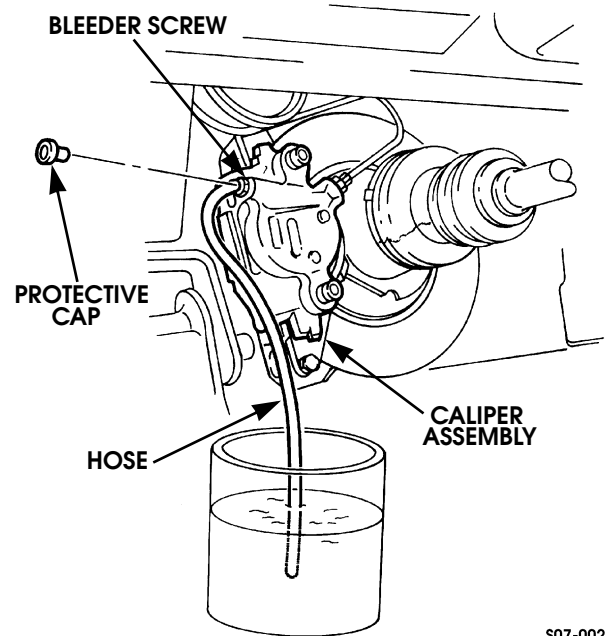

Figure 7-5: Manually Bleeding Brake System
5. Remove protective cap from bleeder screw on caliper assembly (Figure 7-5).
8. Open bleeder screw 3/4 turn and observe brake fluid in container. Close bleeder screw when brake fluid flows free of air bubbles (Figure 7-5).
2. Remove protective cap from bleeder screw on caliper assembly (Figure 7-5).